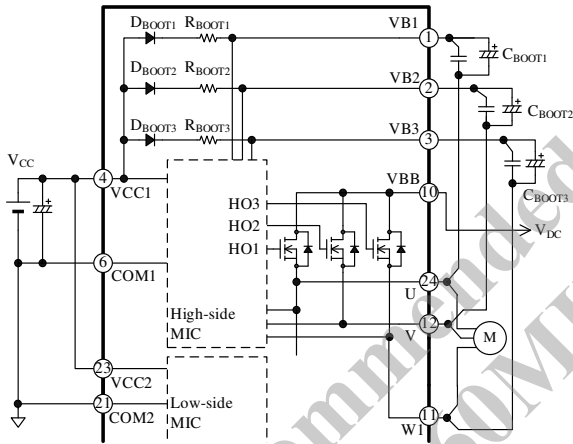

Figure 11-2. Bootstrap Circuit
As Figure 11-2 shows, a bootstrap diode, D_{BOOTx} , and a current-limiting resistor, R_{BOOTx} , are internally placed in series between the V_{CC1} and V_{Bx} pins. Time constant for the charging time of C_{BOOTx} , τ , can be computed by Equation (3):